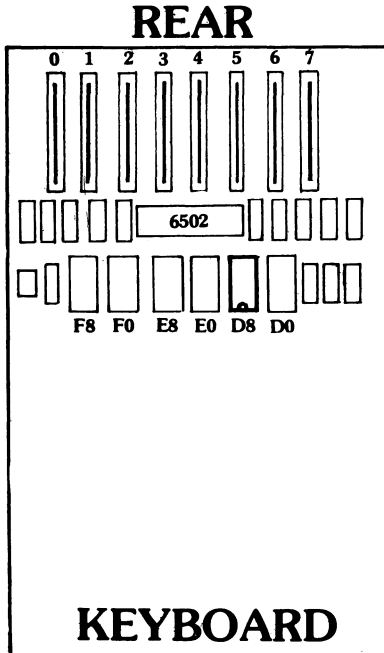

Figure 1
5. Orient the EPROM so the notch is facing towards the key board. See figure 1.